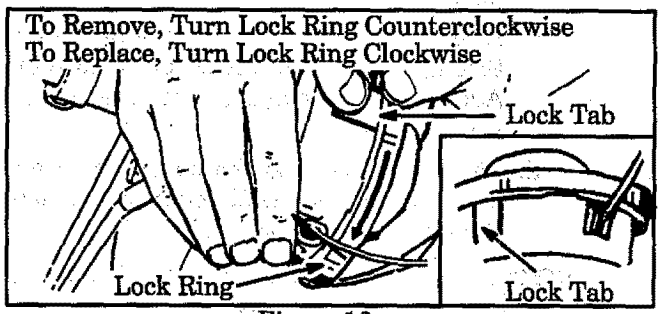

Figure 16
- a. Hold the trimmer head as shown in **Figure 16**. Press the lock tab and turn the lock ring as shown in **Figure 16**.